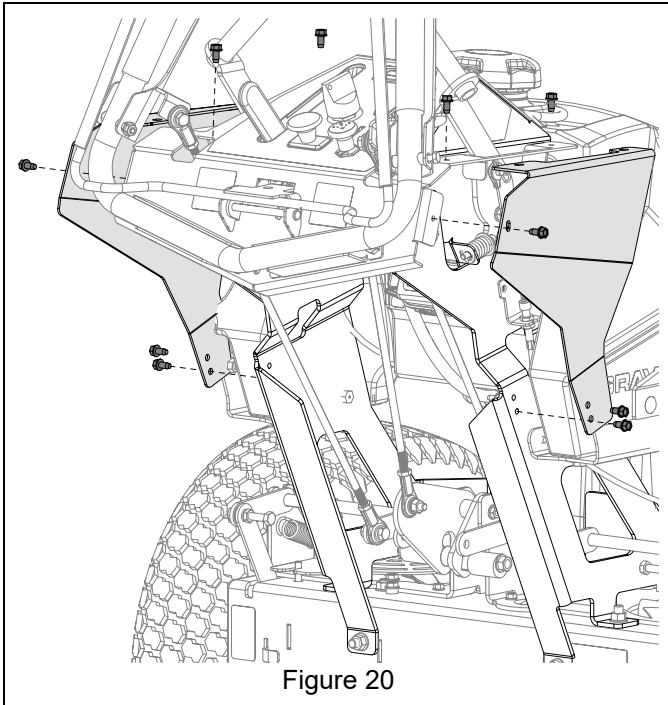

Figure 20
27. Reinstall left and right side covers and retain with ten tapping screws. See Figure 20.